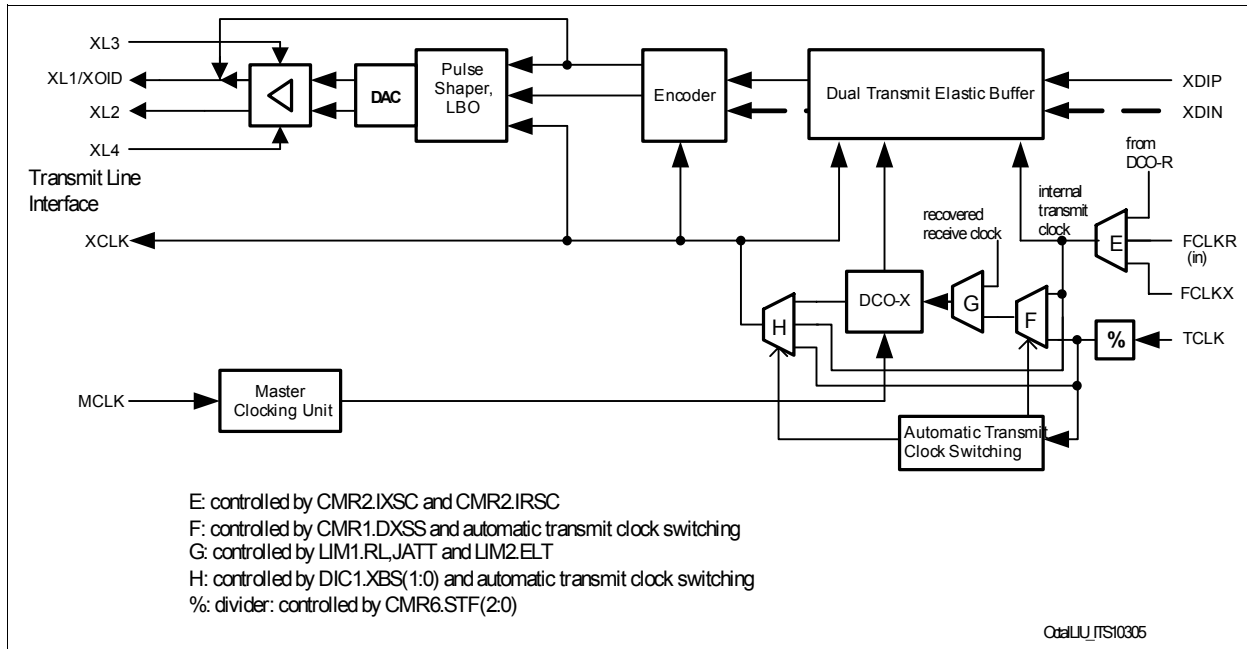
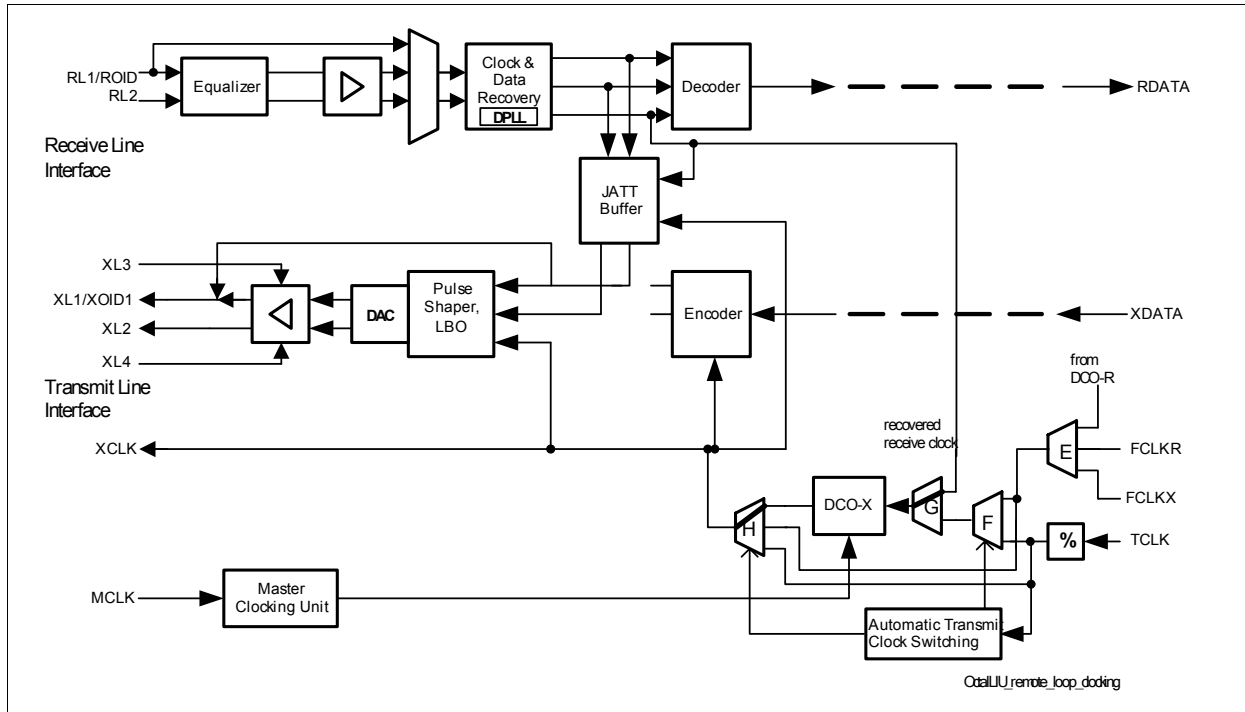

Figure 29 Transmit System of one Channel
Figure 31 Clocking and Data in Remote Loop Configuration
The transmit path of the OctalLIU™ is shown in Figure 29.
The transmit clock input TCLK (multi function port) of the OctalLIU™ can be configured for 1.544, 3.088, 6.176, 12.352 and 24.704 MHz input frequency in T1/J1 mode and 2.048, 4.096, 8.192, 16.384 and 32.768 MHz input frequency in E1 mode. Frequency selection is done by the register bits CMR6.STF(2:0) (CMR6). See divider “%” in Figure 29.
- If the TCLK input is used directly as source for the transmit clock XCLK, the output of the DCO-X is not used. The DCO-X reference clock is FCLKX. If loss of TCLK is detected, the transmit clock XCLK will be switched automatically (if CMR6.ATCS = '1') to the DCO-X output which is synchronous to FCLKX (see multiplexer “H” in Figure 29). If XCLK was switched to the DCO-X output and TCLK becomes active, switching of XCLK (back)
- If the transmit clock XCLK is sourced by the DCO-X output and the DCO-X reference clock is TCLK, the DCO-X reference will be switched automatically (if $CMR6.ATCS = '1'$) to FCLKX (see multiplexer “F” in Figure 29) after a loss of TCLK was detected. If the DCO-X reference was switched to FCLKX and TCLK becomes active, switching of the reference (back) to TCLK is automatically performed if $CMR6.ATCS = '1'$. All switchings of the reference between TCLK and FCLKX are shown in the interrupt status bit $ISR7.XCLKSS1$ which is masked by $IMR7.XCLKSS1$. For these kinds of automatically switching, the transmit clock XCLK fulfills the jitter-, wander- and frequency deviation- requirements as specified for E1/T1 after the clock source of the DCO-X was changed. If $CMR6.ATCS$ is cleared, TCLK is used (again) as reference for the DCO-X, independent if TCLK is lost or not. The interrupt status bit $ISR7.XCLKSS1$ will be set also.
The transmit jitter attenuator is based on the so called DCO-X (digital clock oscillator, transmit) in the transmit path. Jitter attenuation of the transmit data is done in the transmit elastic buffer, see Figure 29. The DCO-X circuitry generates a “jitter-free” transmit clock and meets the E1 requirements of ITU-T I.431, G. 736 to 739, G.823 and ETSI TBR12/13 and the T1 requirements of AT&T PUB 62411, PUB 43802, TR-TSY 009, TR-TSY 253, TR-TSY 499 and ITU-T I.431, G.703 and G. 824. The DCO-X circuitry works internally with the same high frequency clock as the DCO-R. It synchronizes either to the working clock of the transmit system interface (internal transmit clock) or the clock provided on multi function pin TCLK or the receive clock RCLK (remote loop/loop-timed). The DCO-X attenuates the incoming jitter starting at its corner frequency with 20 dB per decade fall-off. With the jitter attenuated clock, which is directly depending on the phase difference of the incoming clock and the jitter attenuated clock, data is read from the transmit elastic buffer (512/386 bit) or from the JATT buffer (512/386 bit, remote loop), see Figure 31. Wander with a jitter frequency below the corner frequency is passed transparently. The dual transmit elastic buffer can buffer two data streams so that dual rail mode is possible at the transmit framer interface (XDIP/XDIN).
The jitter attenuated clock is output on pin XCLK if the transmit jitter attenuator is enabled, see multiplexer “H” in Figure 29.
The transmit jitter attenuator can be disabled. In that case data is read from the transmit elastic buffer with the clock sourced on pin TCLK, see multiplexer “H” in Figure 29. Synchronization between FCLKX and TCLK has to be done externally.
In the loop-timed clock configuration (LIM2.ELT) the DCO-X circuitry generates a transmit clock which is frequency synchronized on RCLK, see Figure 31 and multiplexers “G” and “F” in Figure 29. In this configuration the transmit elastic buffer has to be enabled.
The received single rail bit stream from pin XDI or dual rail bit stream from the pins XDIP and XDIN are optionally stored in the transmit elastic buffer, see Figure 29. The transmit elastic buffer is organized as the receive elastic buffer. The functions are also equal to the receive side. Programming of the dual transmit buffer size is done by DIC1.XBS(1:0) in the same way as programming of the dual receive buffer size by DIC1.RBS(1:0), see Table 21:
Writing of received data from XDIP/XDIN is controlled by the internal transmit clock. Selection of FCLKX or FCLKR is possible, see multiplexer “E” in Figure 29. (If the DCO-R output is selected, the DCO_R output is also output at FCLKR.)